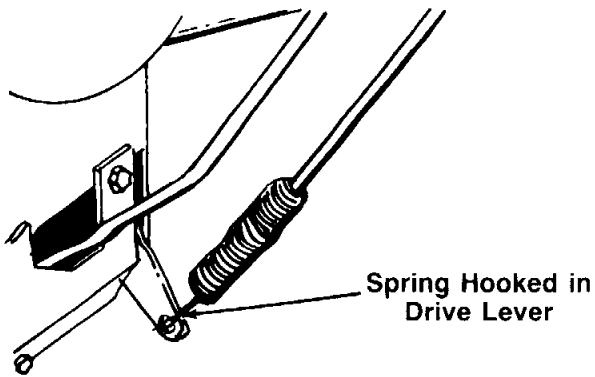

FIGURE 15.
20. Hook the drive clutch cable into drive lever. **There should not be any tension on the spring when the clutch grip is in the released position.** See figure 15.